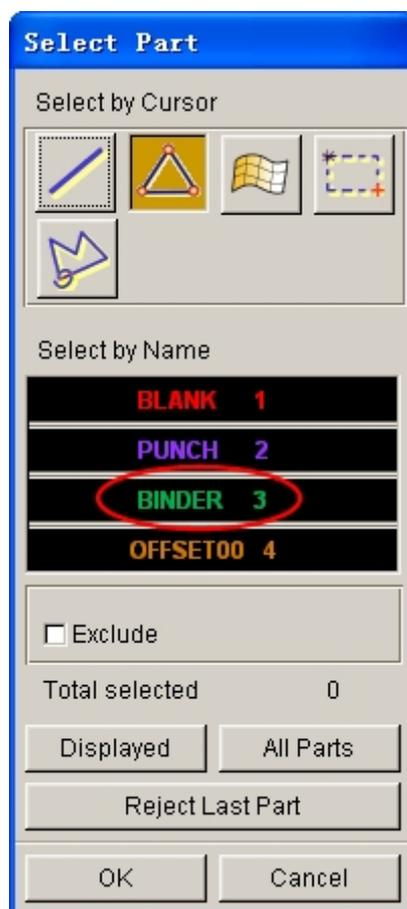

Figure 7.23 Select part dialog box
21. Select **BINDER** part from the SELECT PART dialog box illustrated in Figure 7.23.